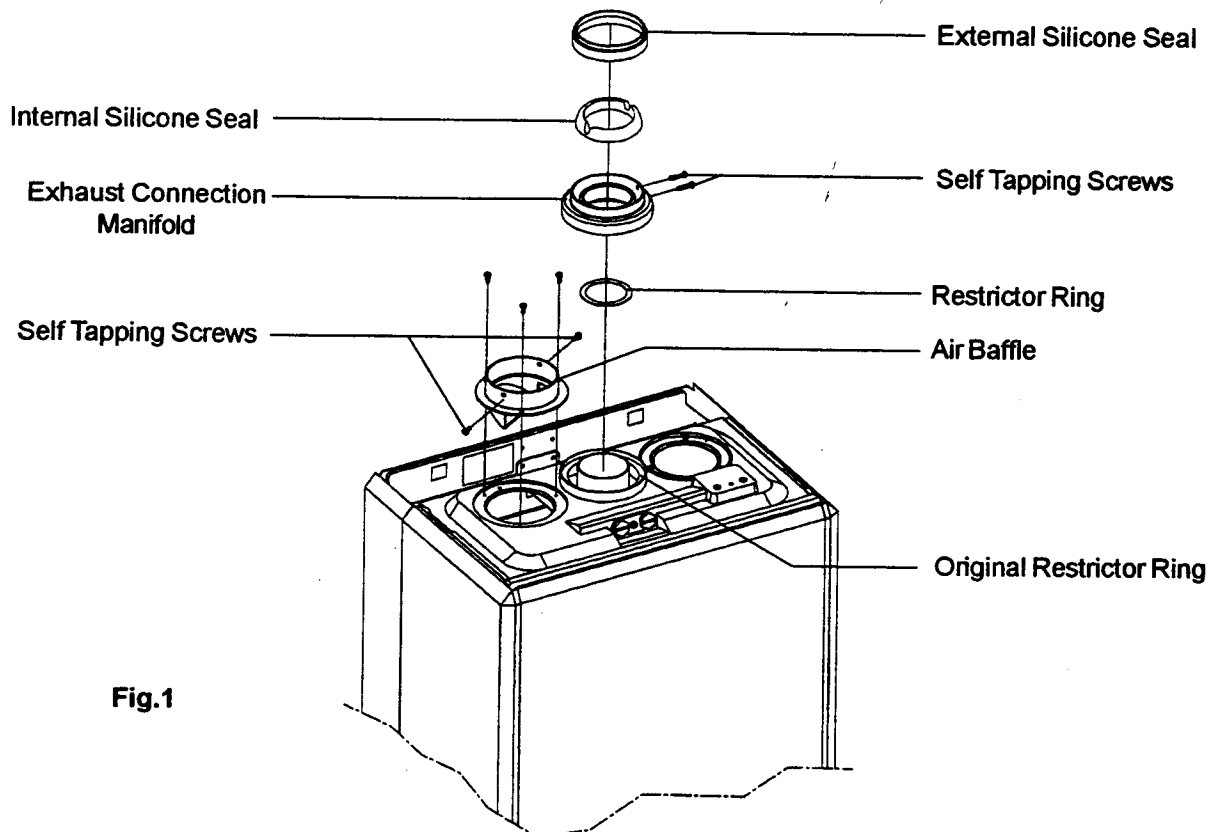

Fig.1
Kit contains: (fig. 1)
- 1.2 Insert the new restrictor ring into the exhaust connection manifold. (Only if the combined flue lengths is less than 8m, fig. 1).
- 6.1 Where the text bears identifying numbers in brackets, refer to figs. 1 and 2 unless otherwise instructed.